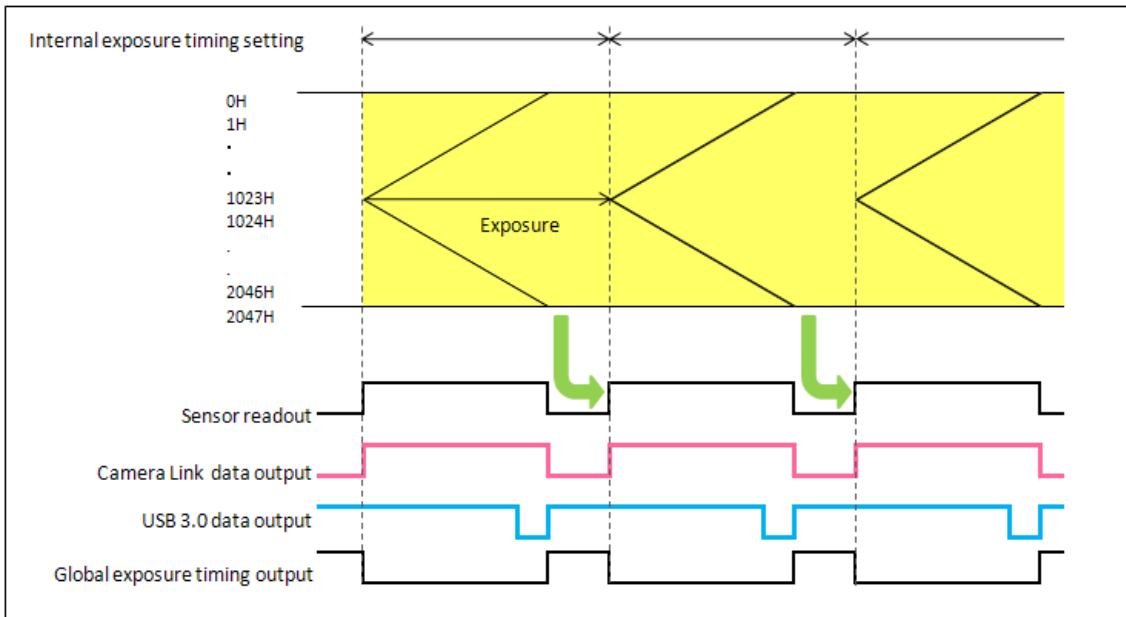
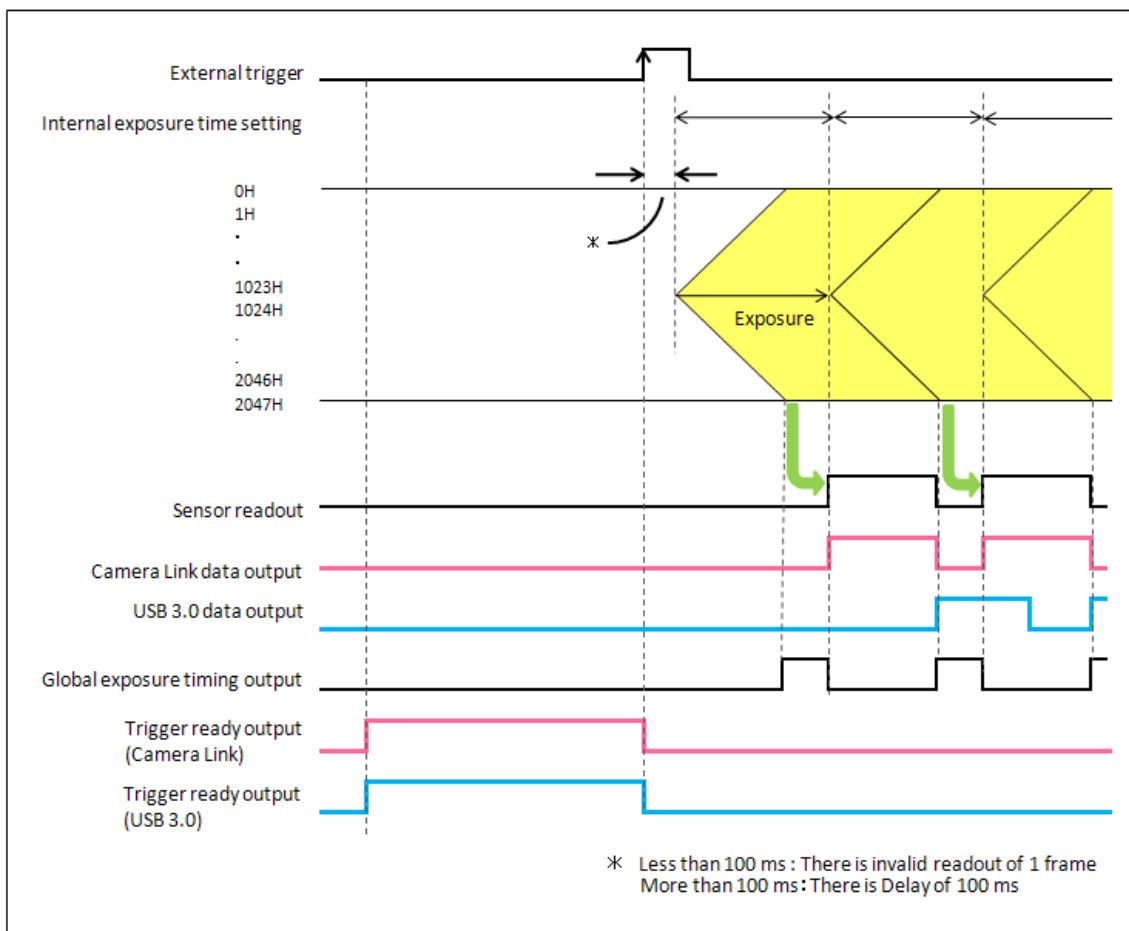

Figure 10-4
Figure 10-11 (Ex. rising edge)
- Refer to Figure 10-4 to Figure 10-11 about details of each trigger output functions.